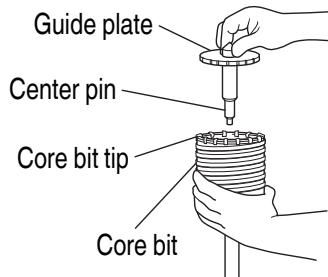

Fig. 27
- (3) Insert the center pin into the guide plate until it stops.
- (4) Engage the guide plate with the core bit, and turn the guide plate to the left or the right so that it does not fall even if it faces downward (Fig. 27).